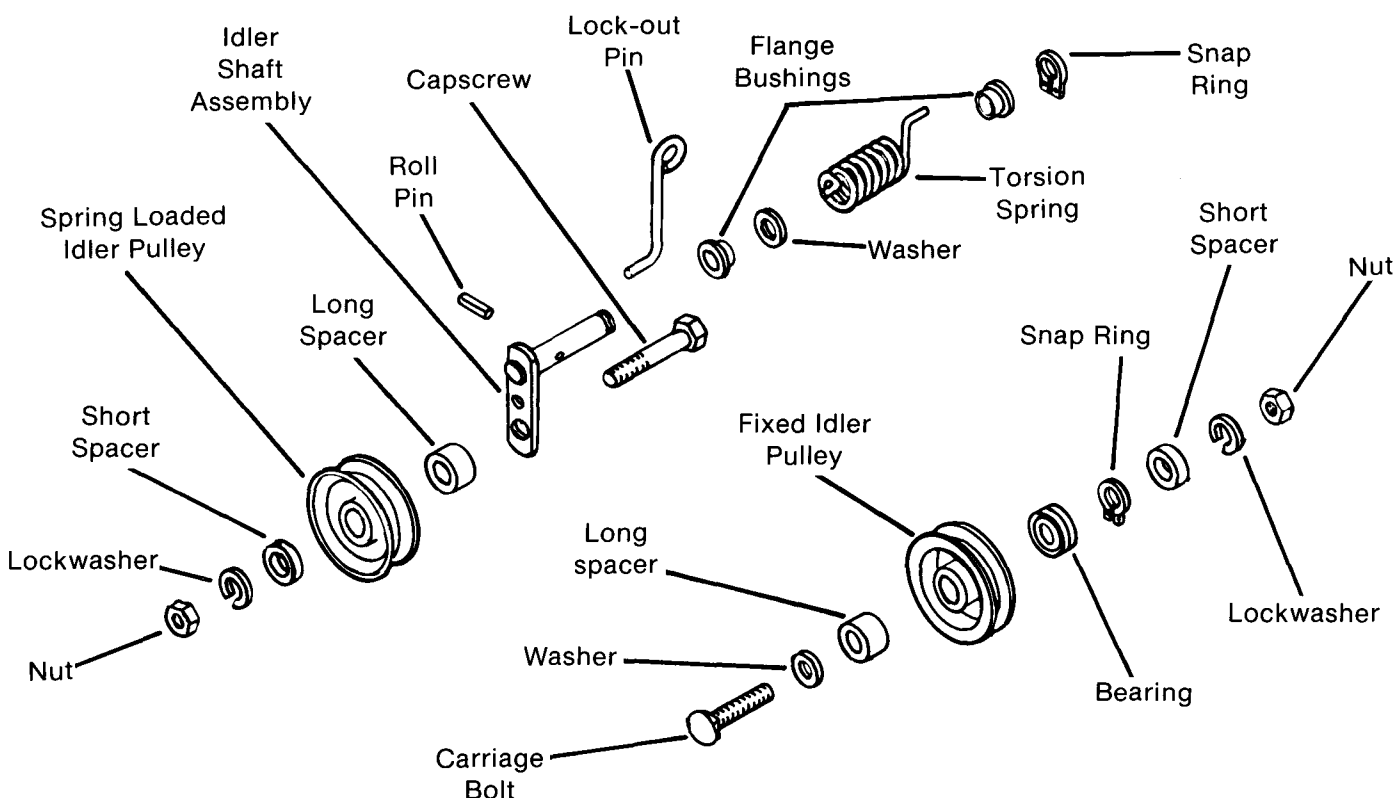

FIG. 21
- C. Remove nut on outside of spring loaded idler capscrew. Remove lockwasher, short spacer, idler pulley and long spacer from capscrew. (Fig. 21) Inspect idler pulley bearing for wear. If bearing is worn, replace idler pulley and bearing as a complete assembly. Bearing cannot be replaced separately.
- E. Remove snap ring from left end of idler shaft assembly. (Fig. 21)
- b. Loosen (do not remove) nut securing fixed idler pulley. (Fig. 21)